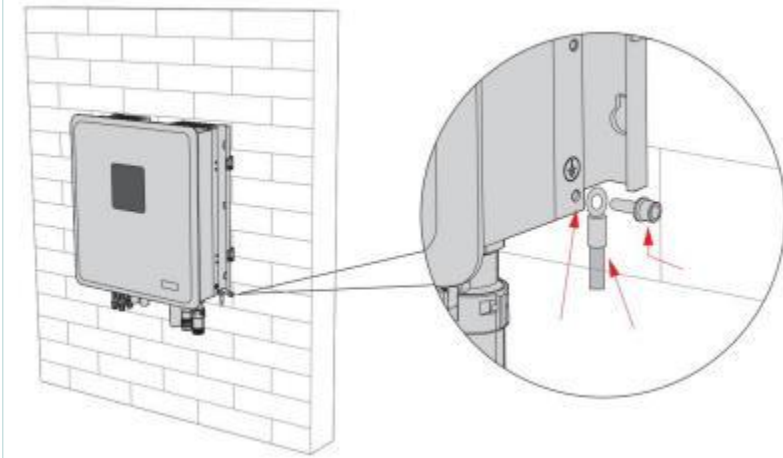

Figure 9: Diagram of connection of the earthing wire
- **Step 1:** Strip the insulation layer of an appropriate length of the earthing cable with the wire stripper (Figure 9 ①).
- **Step 2:** Thread the stripped wire core into the conductor crimp area of the OT terminal, and crimp it with a crimper (Figure 9 ②). It is recommended to use the OT terminal: OTM6, the diameter of the recommended earthing wire is $\geq 6\text{mm}^2$.
- **Step 3:** Fix the OT terminal with M5 screws in the position shown in Figure 9 ③, with the recommended locking torque of 2N.m.